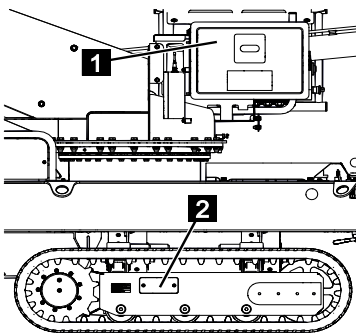

Fig. 231
2. Take the button head coupler out of the stowage space (Fig.231/1).
3. Unscrew and remove the maintenance cover (Fig.231/2).